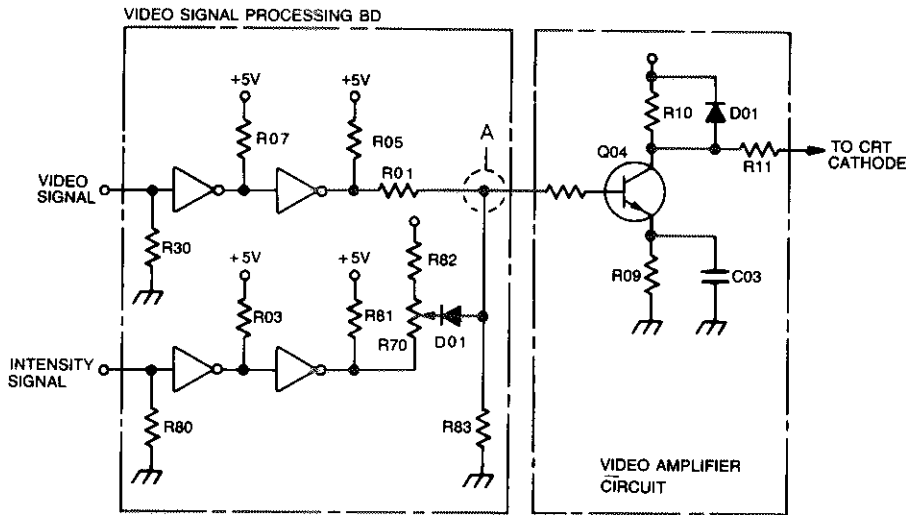

FIGURE 2-105. VIDEO/INTENSITY CIRCUIT
2.8.1 Video Circuit (Figure 2-105)
In the video processing circuit, there are four possible signal combinations, described in Table 2-53, which determine the voltage level at point A in Figure 2-105. The four combinations produce two possible display modes: one in which the display contrast is variable and one in which maximum brightness is set.